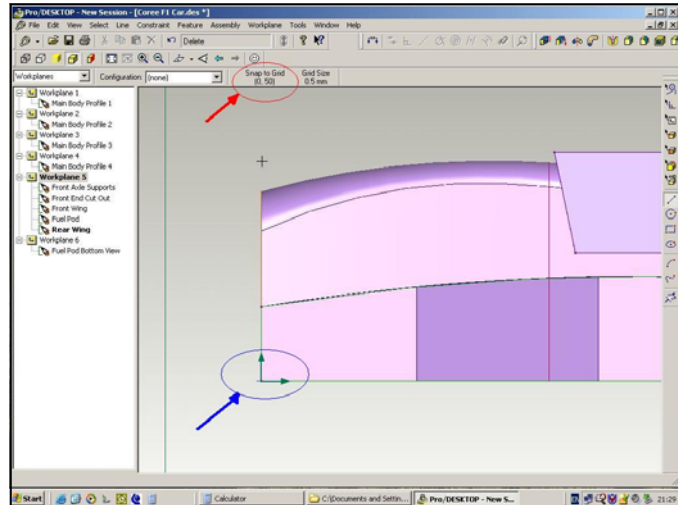

Figure 23 - Drawing Coordinates
- 4) The Balsa Blank is 50 MM high, so when you are creating the vectors, refer to the coordinates to make sure you don't exceed the boundaries of the Blank. In Figure 23 the Blue circle is highlighting the origin, and the Red circle is highlighting your coordinates of the cursor.